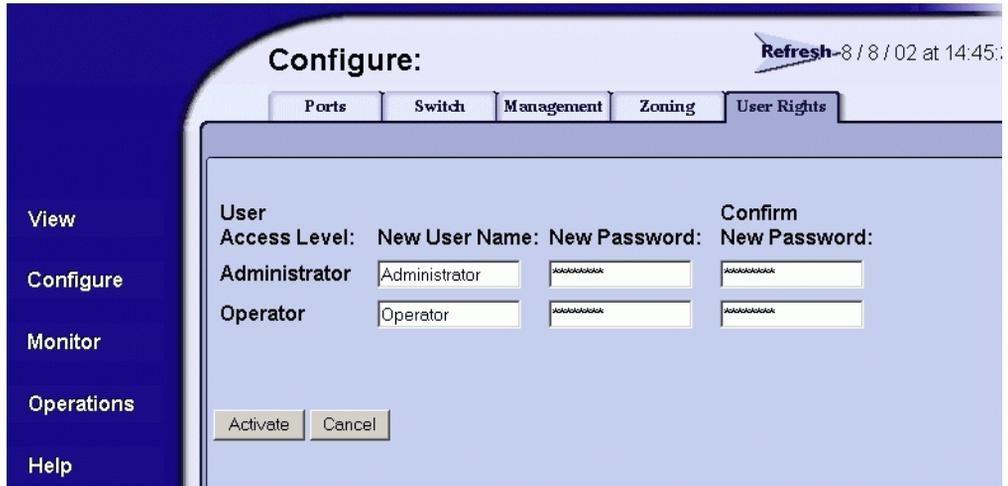

Figure 2–16: User Rights page
- c. Type the administrator password again in the **Confirm New Password** field, as shown in Figure 2–16.